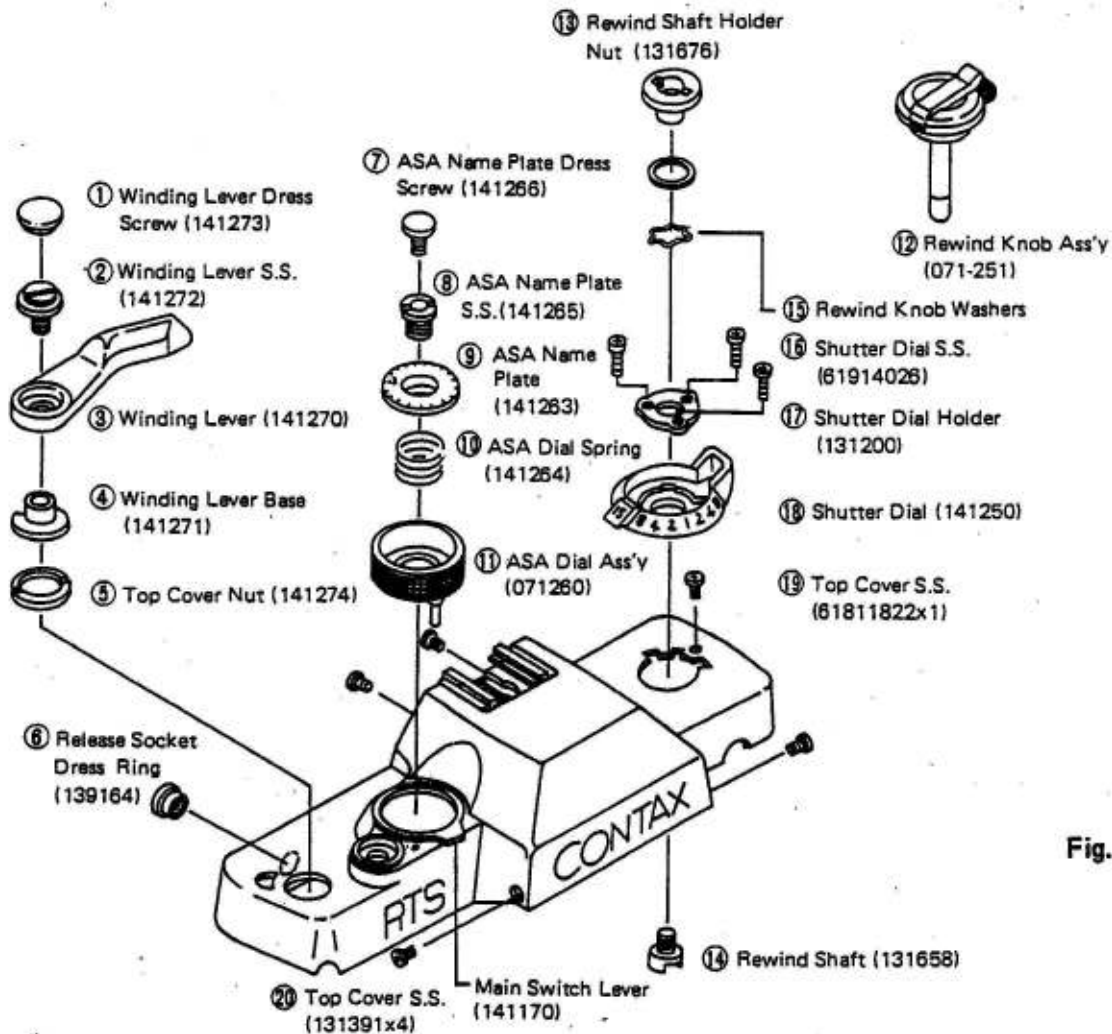

Fig. 1
Remove the respective parts ① ~ ⑳ shown in (fig. 1) in numerical order.